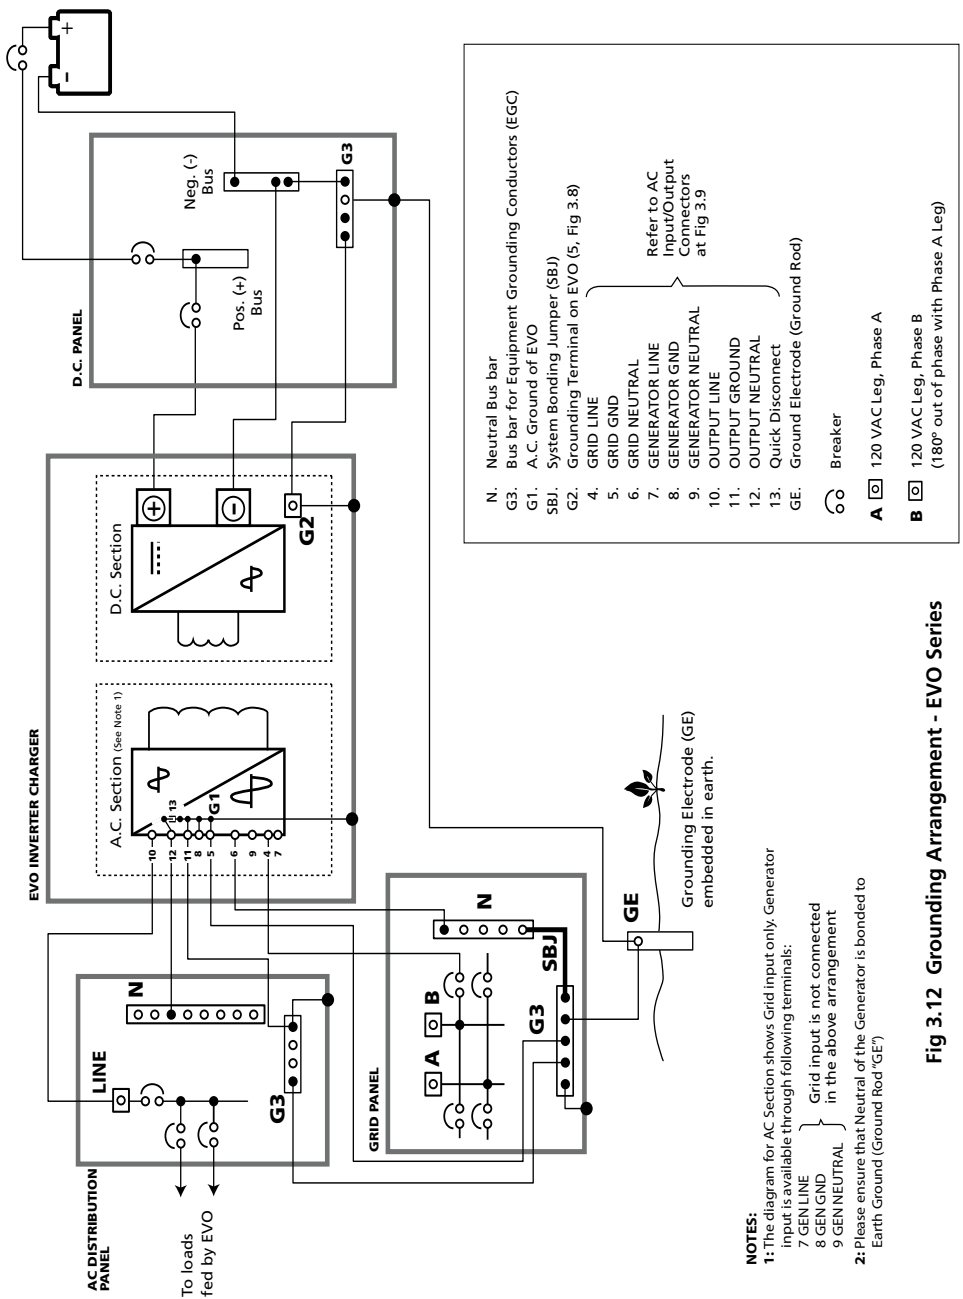

Fig 3.12 Grounding Arrangement - EVO Series
Schematic at Fig. 3.12 illustrates the grounding arrangement of EVO Series.
3.13 DC SIDE GROUNDING (SEE FIG. 3.12)
A DC Panel, as shown in Fig. 3.12, is normally provided to connect the batteries and distribute DC power to the inverter and to the other DC loads.
3.14 AC SIDE GROUNDING (PLEASE SEE FIG 3.12)
- The AC Input Grounds {GEN GND (8), GRID GND (5)} and AC Output Ground {OUTPUT GND (11)}, are internally bonded to the chassis of the inverter (G1)
- The Equipment Grounding Conductors (part of the Grid/Generator input wiring) from Bus Bars (G3) for the Equipment Grounding Conductors in the Grid and Generator Input Panels are connected to the AC input Ground terminals in {GRID GND (5), GEN GND (8)}.
- The AC output Ground terminal of the EVO {OUTPUT GND (11)} is connected to the Equipment Grounding Conductor of the AC output wire which then connects to the Bus Bar (G3) for the Equipment Grounding Conductors of the AC Distribution Panel.
- The Bus Bar (G3) for Equipment Grounding Conductors of the AC Distribution Panel is connected to the Bus Bar for the Equipment Grounding Conductors (G3) of the Grid/Generator Input Panel, which in turn is connected to the Ground Rod or the Grounding Electrode (GE). **Thus, in keeping with the NEC requirements, the AC Grounds of EVO and the AC Distribution Panel will be bonded to the Earth Ground only at one single point at the Grid/Generator Panel feeding the EVO.**